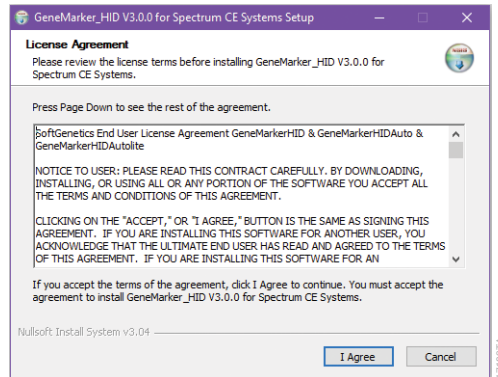

Figure 1. 'License Agreement' window.
3. The setup wizard will launch, displaying the 'License Agreement' window (Figure 1).